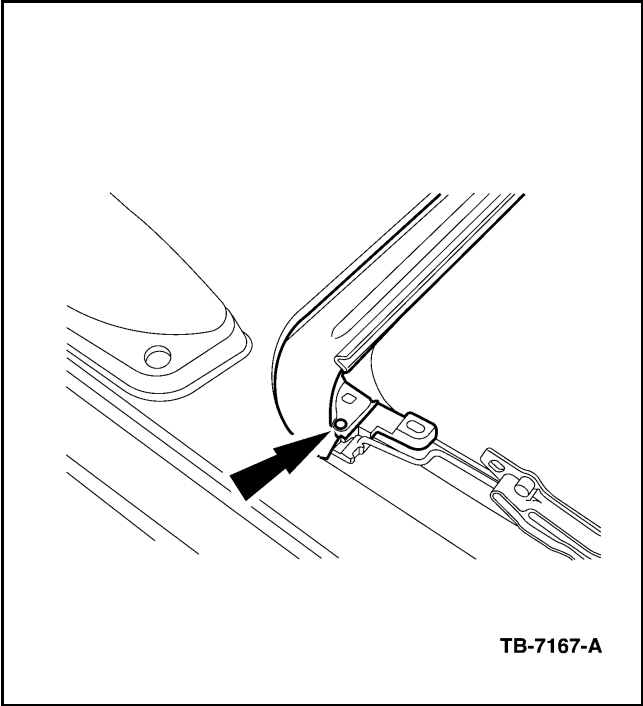

Figure 1 - Article 03-11-10
2. Remove the two trough guide retaining screws (Figure 1).